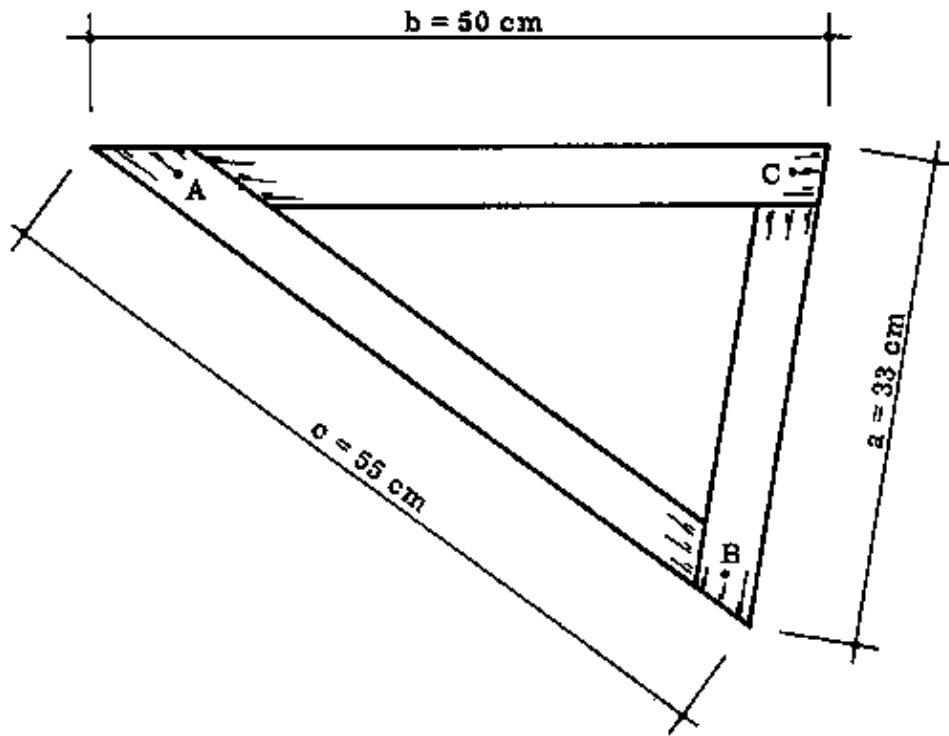

Fig. 1
Before you can start laying the archstones, the abutments with their skewbacks must be prepared so that the springers can be laid at the correct angle. To be sure that the angle of the skewback is correct, the Rural Builder can use the template described below (Fig. 1).
– MAKING THE TEMPLATE: The template is made from wooden battens. It is simply a triangle with the outside dimensions as follows: side "a" = 33 cm, side "b" = 50 cm, and side "c" = 55 cm (Fig. 1). The angle at C is the angle we need to mark the skewback.
Use three battens that are a few centimetres longer than the measurements required. This allowance can be cut off when the template is assembled. Plane one edge of each until it is exactly straight and mark the length on this edge. Nail the battens together as in Fig. 1; or make accurate halving joints and join the pieces together with wing nuts instead of nails, so that they can be taken apart and put back together when they are needed in the future. The corners should be marked on both sides with the letters A, B and C, so that the ends are not accidentally mixed up when it is reassembled.